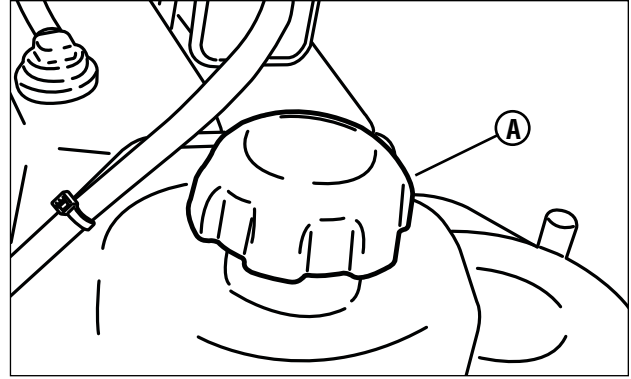

Figure 2: Fuel filler cap
8. Add fuel to the fuel tank after pushing the Rear Engine Rider outside where fumes can dissipate. Make sure the fuel filler cap (**A, Figure 2**) is tight after refueling. Refer to the engine manual for fuel specifications.